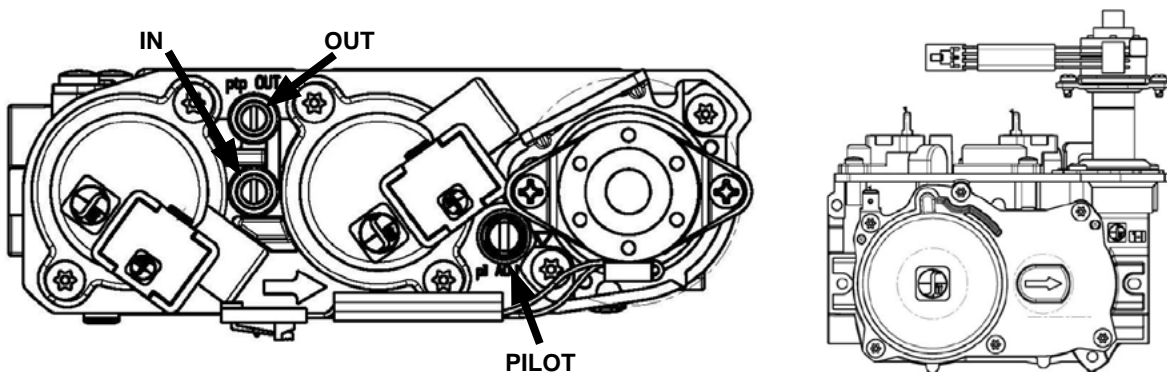

Figure 20.3.01
2. The pressure test taps are located on the valve's front face. The inlet is marked 'IN' and the outlet is marked 'OUT'. See **Figure 20.3.01**.
The flame should not have yellow tips but should engulf the flame sensor and spark electrode. It can be adjusted by turning the screw marked "pilot" on the control valve (See **Figure 20.3.01**).